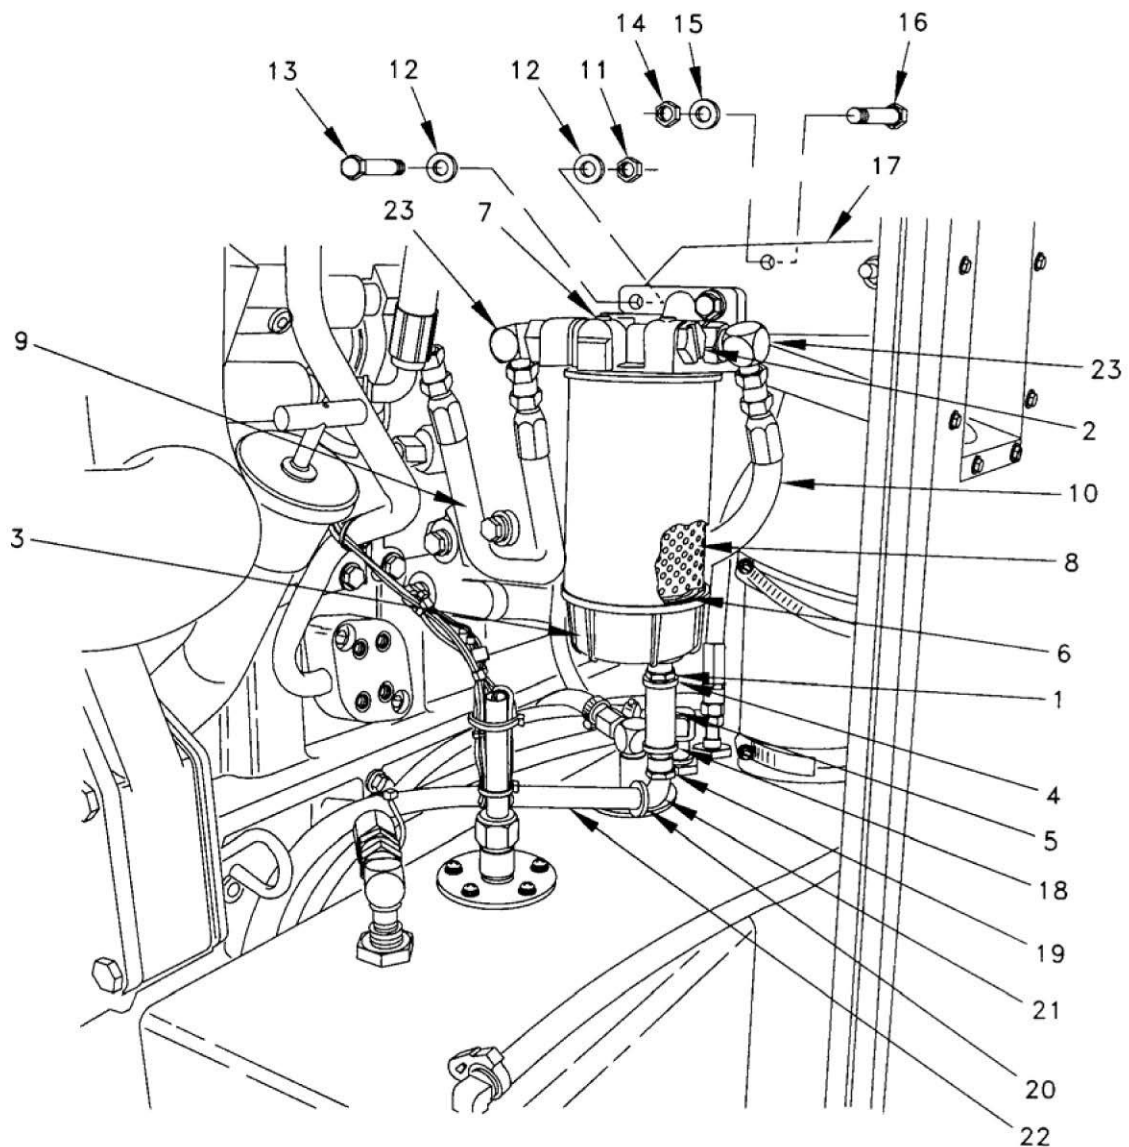

Figure 1. Water Separator Filter and Bracket.
2. Rotate valve (Figure 1, Item 1) and air vent (Figure 1, Item 2) to allow water to drain from bowl (Figure 1, Item 3).
3. Rotate valve (Figure 1, Item 1) and air vent (Figure 1, Item 2) to close.
2. Remove clamp (Figure 1, Item 4) and disconnect hose (Figure 1, Item 5) from drain port on bottom of water separator filter bowl (Figure 1, Item 3).
3. Remove bowl (Figure 1, Item 3) and gasket (Figure 1, Item 6) from water separator filter assembly (Figure 1, Item 7) and remove filter element (Figure 1, Item 8).
5. Add a light coat of fuel to the gasket and install new filter element (Figure 1, Item 8) into water separator assembly (Figure 1, Item 7). Apply a light coat of fuel to the gasket and install gasket (Figure 1, Item 6) and bowl (Figure 1, Item 3).
6. Connect hose (Figure 1, Item 5) to bottom of bowl (Figure 1, Item 3) and install clamp (Figure 1, Item 4).
3. Remove clamp (Figure 1, Item 4) and disconnect hose (Figure 1, Item 5) from drain port on bottom of water separator filter bowl (Figure 1, Item 3).
4. Disconnect hose (Figure 1, Item 9) and hose (Figure 1, Item 10) from water separator filter assembly (Figure 1, Item 7).
5. Remove two nuts (Figure 1, Item 11), four washers (Figure 1, Item 12), two screws (Figure 1, Item 13), and water separator filter assembly (Figure 1, Item 7).
6. Remove two nuts (Figure 1, Item 14), washers (Figure 1, Item 15), screw (Figure 1, Item 16), and bracket (Figure 1, Item 17).
7. Remove hose clamp (Figure 1, Item 18), swivel (Figure 1, Item 19), clamp (Figure 1, Item 20), and elbow (Figure 1, Item 21), from hose (Figure 1, Item 22).
8. If necessary, remove two elbows (Figure 1, Item 23).
1. Apply sealing compound to male threads and install two elbows (Figure 1, Item 23) on water separator filter assembly (Figure 1, Item 7).
2. Install elbow (Figure 1, Item 21) on hose (Figure 1, Item 22), with swivel (Figure 1, Item 19), and clamp (Figure 1, Item 18).
3. Install bracket (Figure 1, Item 17), two screws (Figure 1, Item 16), washers (Figure 1, Item 15), and nuts (Figure 1, Item 14).
4. Install water separator filter assembly (Figure 1, Item 7) on bracket (Figure 1, Item 17), and secure with two screws (Figure 1, Item 13), four washers (Figure 1, Item 12), and two nuts (Figure 1, Item 11).